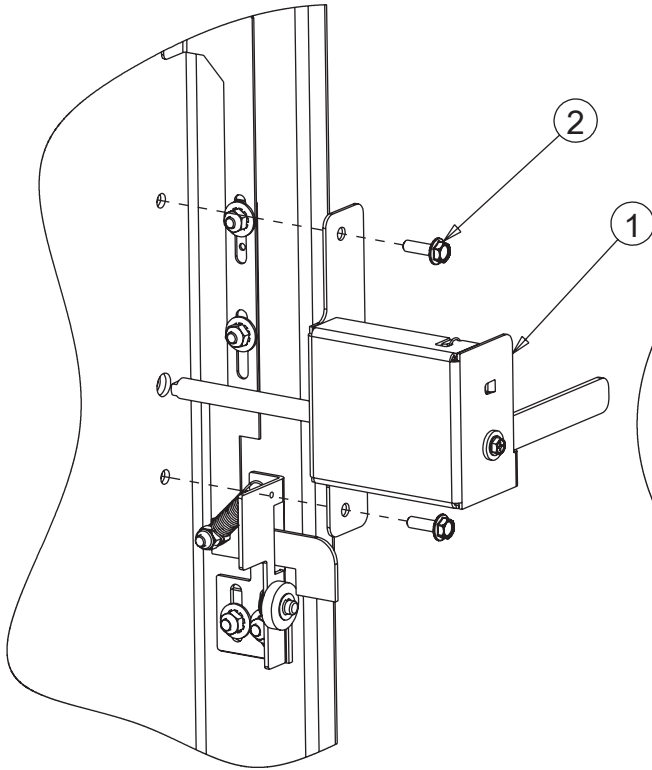

Figure 6A
1. Referring to Figure 6A, with the interlock arm removed, install the control enclosure interlock (Item 1) with the shaft passing through the hole in the control enclosure and into the Sequestr enclosure. Secure the interlock with the two remaining M6x20mm washer head cap screws (Item 2)